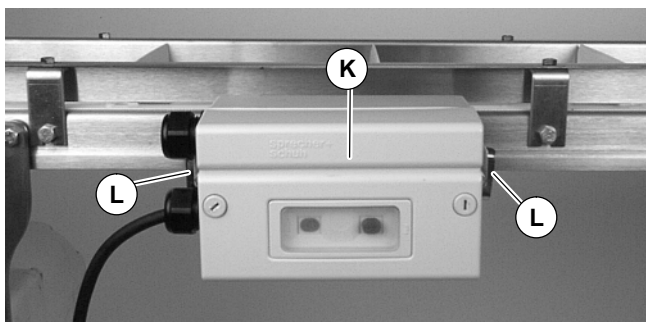

Figure 13
12. Attach motor starter (K of Figure 13) to clips with screws (L). Tighten to 92 in-lb (10.4 Nm).